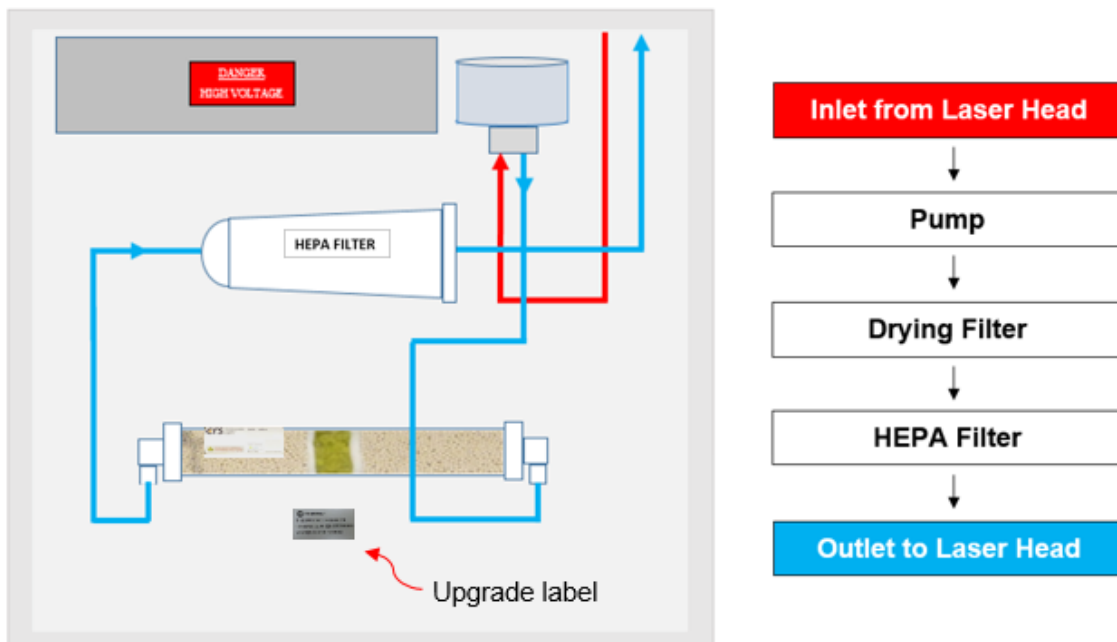

Figure 7
- Check the tubes are routed correctly, as shown in Figure 7.